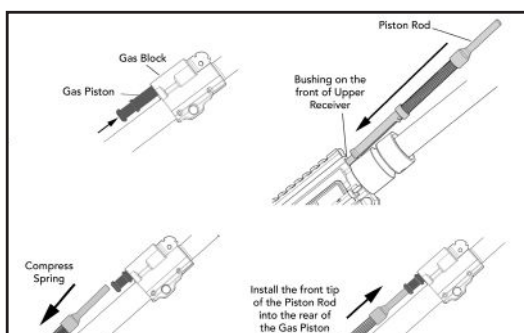

Fig. 53 – Reinstalling the Gas Piston and the Piston Rod
- a. Install the gas piston into the back of the gas block. The piston rings need not be staggered prior to installation (Fig. 53).